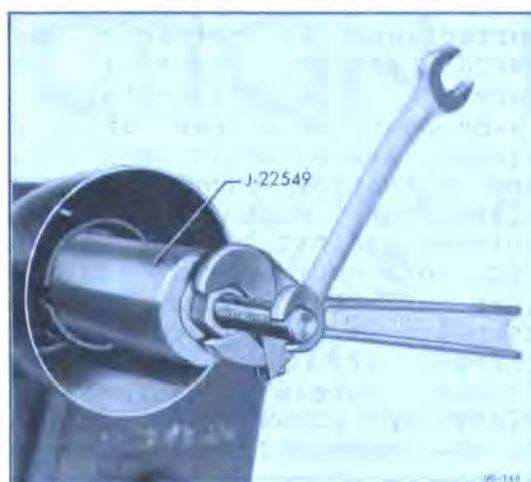

Figure 90-105 Installing Shift Tube into Shift Bowl
5. Align keyway in shift tube with key in bowl and use special tool J-22549 to pull shift tube into bowl (see Figure 90-105) and install thrust washer and retaining clip.